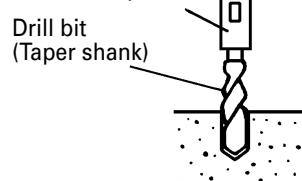

Fig. 10
- Install drill bit with taper shank in the taper shank adaptor. (Fig. 10)